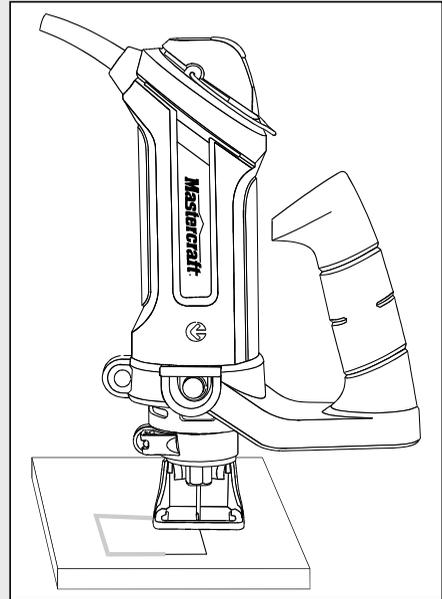

Fig. 9
- When the motor is up to full speed, slowly tip the tool to an upright position, letting the bit cut into the workpiece (Fig. 9). Once the tool has reached the upright position and the bit has cut through the workpiece, slowly move the tool in a **clockwise** direction using slow steady pressure to make the cut.